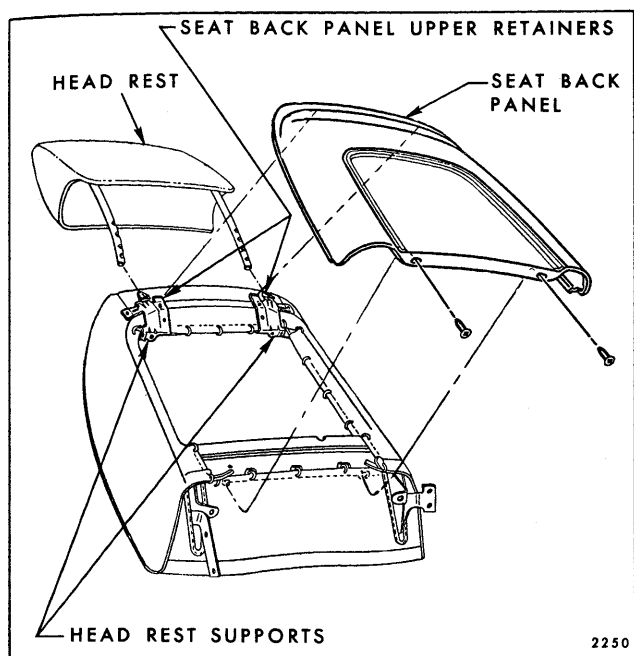

Fig. 10-43—Strato Seat Back Panel and Headrest
3. Remove two screws securing bottom of seat back panel to seat back; then, lift panel upward to disengage from upper retainers and remove panel from seat back (Fig. 10-43).
4. Remove hog rings securing right side of seat back side trim to seat back frame (Fig. 10-43) and turn trim forward sufficiently to expose positioning unit (Fig. 10-42).
2. Remove two screws securing bottom of seat back panel; then, lift panel upward to disengage from upper retainers and remove panel from seat back (Fig. 10-43).